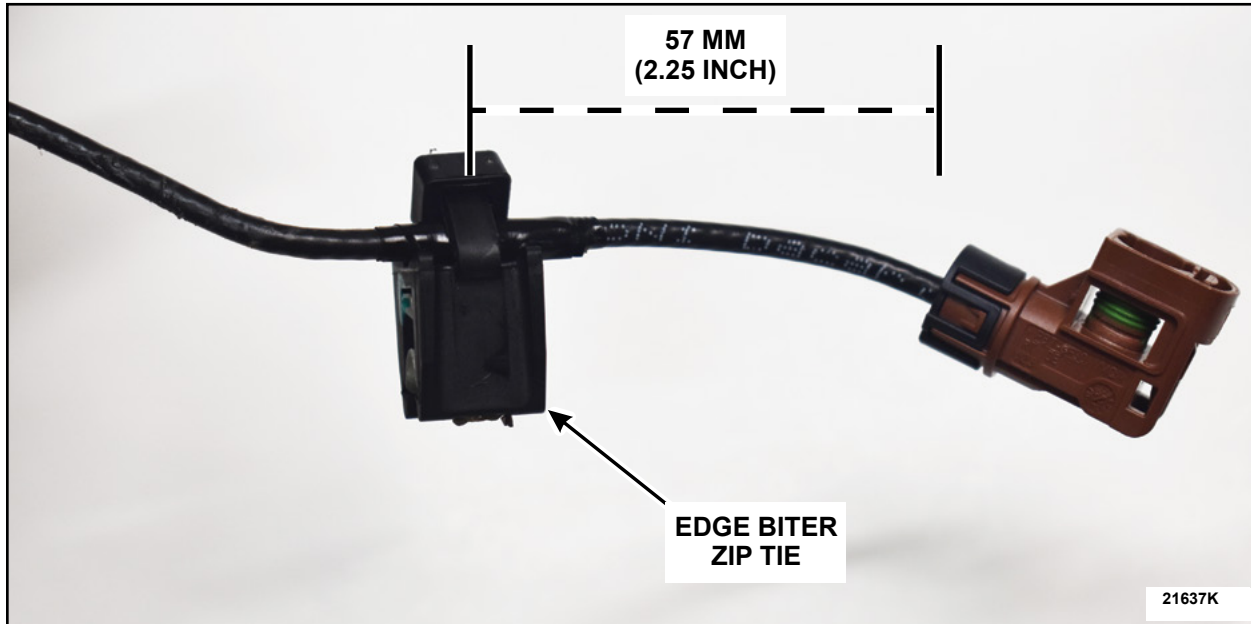

FIGURE 5
6. Measure 57 mm (2.25 inch) from the back of the rear camera electrical connector and install the edge biter zip tie. Trim any excess length of zip tie. See Figure 5.